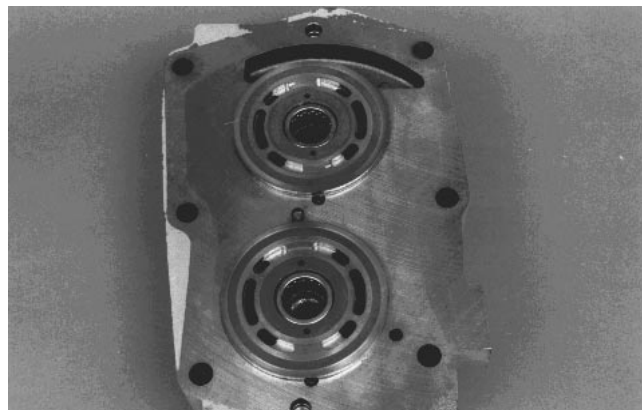

Figure 44
5. Carefully remove valve plates from center section (Fig. 44). It may be necessary to pry valve plates off with a small screwdriver.